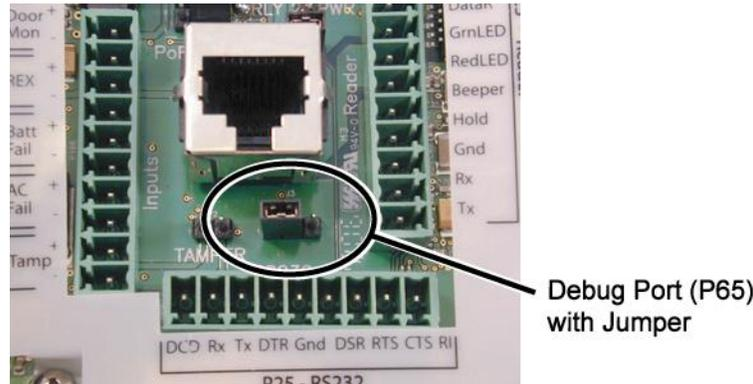

Figure 1 Network Defaults Jumper
2. Place the same jumper over the left two pins of the P65 header (as shown in Figure 1 Network Defaults Jumper).